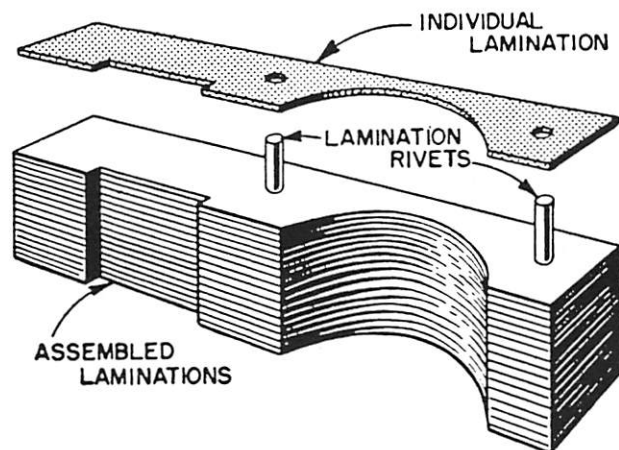

FIGURE 8
3. Laminated Core. The complete coil assembly contains the coil and laminated core. (See Figure 8.) The core has magnetism concentrated in it, first in one direction, then rapidly reversed. Because iron itself is an electrical conductor, large "eddy" currents would be set up in a solid piece of iron. These eddy currents would in themselves act as electro-magnets and oppose the change of direction of the magnetic field in the iron, thus slowing it down. By splitting the iron core up into a number of thin laminations, the build-up of any one large electrical path for an eddy current is prevented. The slight amount of oxide between each lamination acts as enough